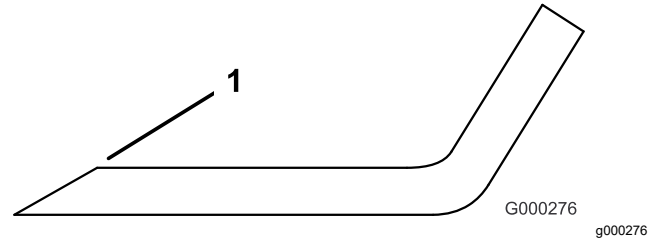

Figure 73
1. Use a file to sharpen the cutting edge at both ends of the blade (Figure 73).
**Note:** If the blade is not balanced, file some metal off the end of the sail area only (Figure 73).